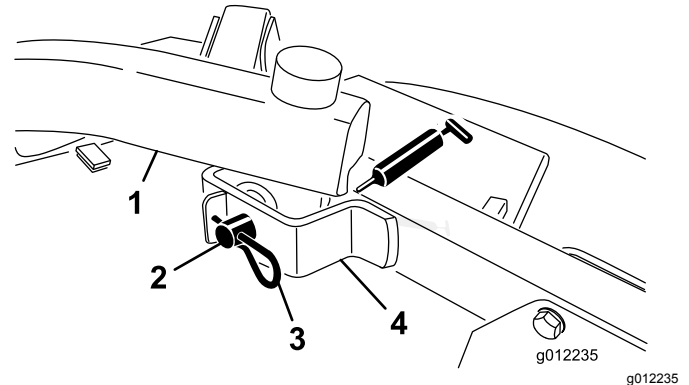

Figure 21
- Lift arm pivots, front (2) (Figure 21)